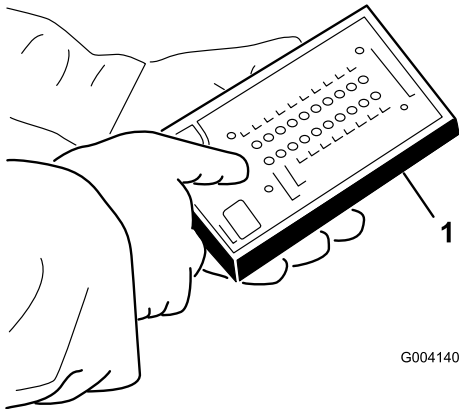

Figure 31
3. Connect the Diagnostic ACE display connector to the harness connector (Figure 31). Make sure that the correct overlay decal is positioned on Diagnostic ACE display.